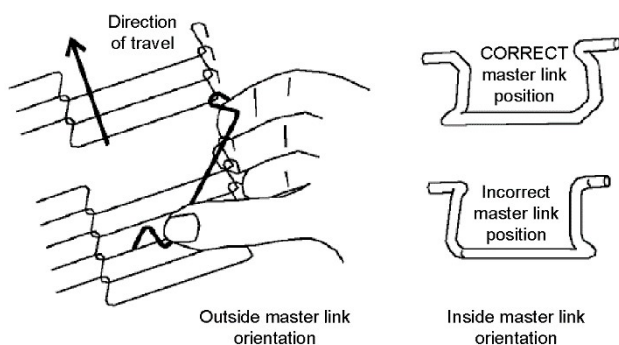

Figure 24. Conveyor and Master Link Orientation
- d. Replace the belt on the conveyor frame. Check that the conveyor belt links are oriented as shown in Figure 24, and that the smooth side of the conveyor belt faces UP.
- e. Connect the inside master links. Check that the links are oriented as shown in Figure 24.
- f. Connect the outside master links. Note that the outside master links each have an open hook on one side. This hook aligns with the hooks along the sides of the other conveyor links. See Figure 24.